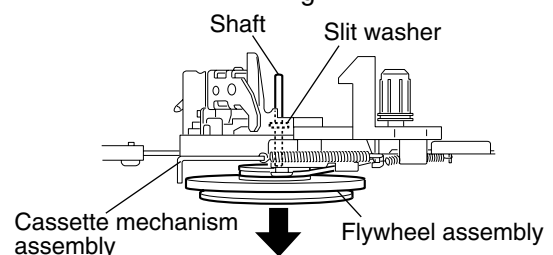

Fig.5
3. Pull out the flywheel assembly in the direction of the arrow. (See Fig.5.)